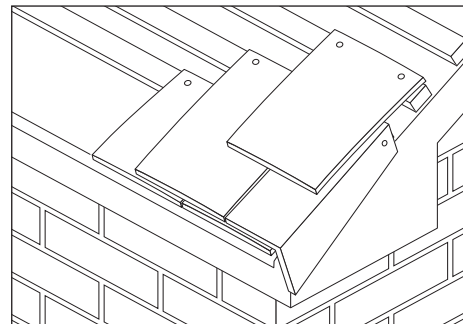

Fig. 4 – Standard tile used to break bond
- 5 Each alternate course should contain a normal plain tile to break bond, which should be twice nailed using standard 38mm x 2.65mm aluminium or stainless steel nails (Fig. 4).